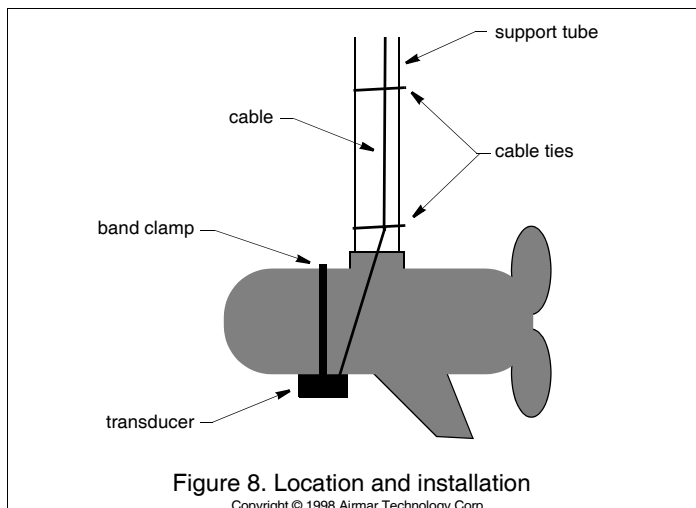

Figure 8. Location and installation
Locate the transducer under the motor case (see Figure 8).
1. Route the cable around the side of the motor case and along the support tube (see Figure 8).